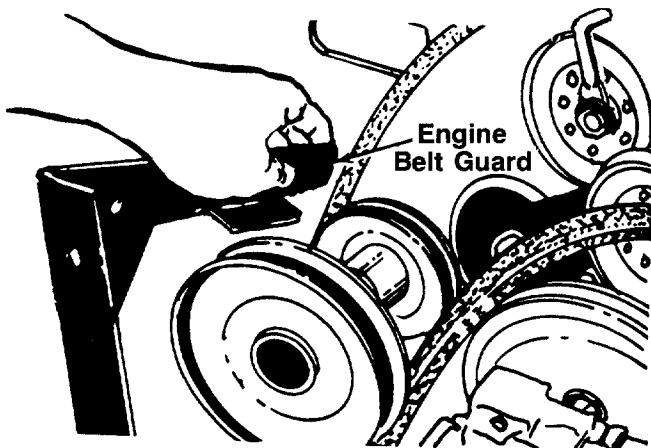

FIGURE 20.
- Remove two hex bolts, nuts and lock washers from the engine pulley belt guard at lawn tractor frame to allow the engine pulley belt guard to drop down out of the way. See figure 20.